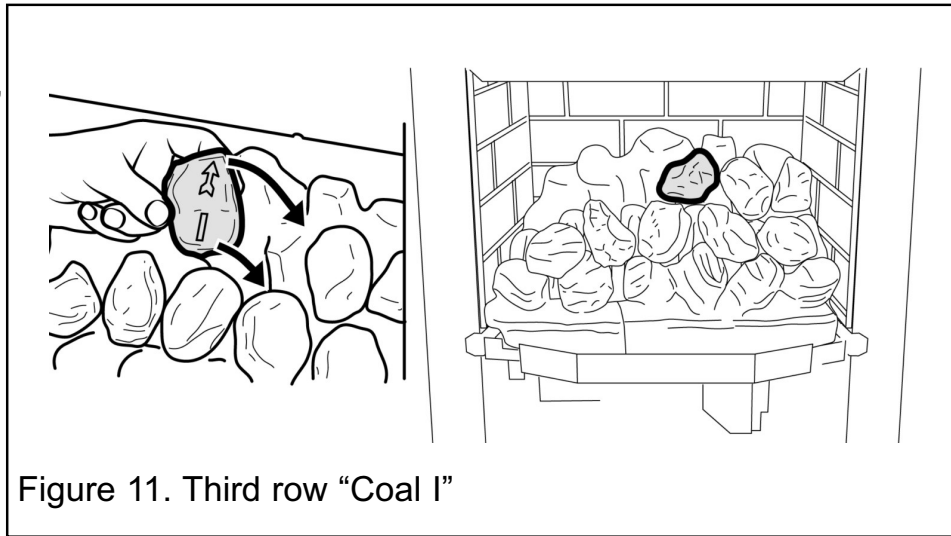

Figure 11. Third row "Coal I"
**13.** Hold coal 'I' upright with the arrow pointing to the top. Locate coal 'I' as shown in figure 11.